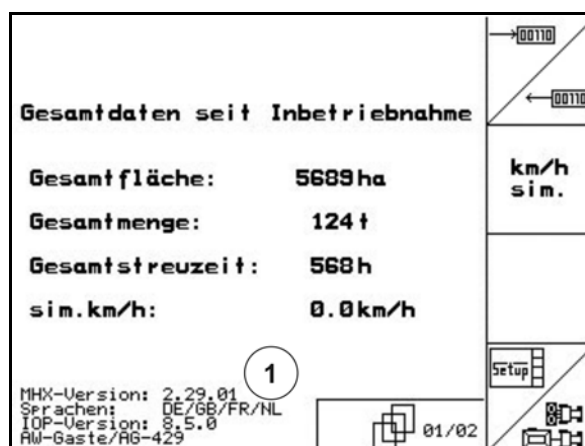

Fig. 12
- Display of the MHX version (Fig. 12/1).